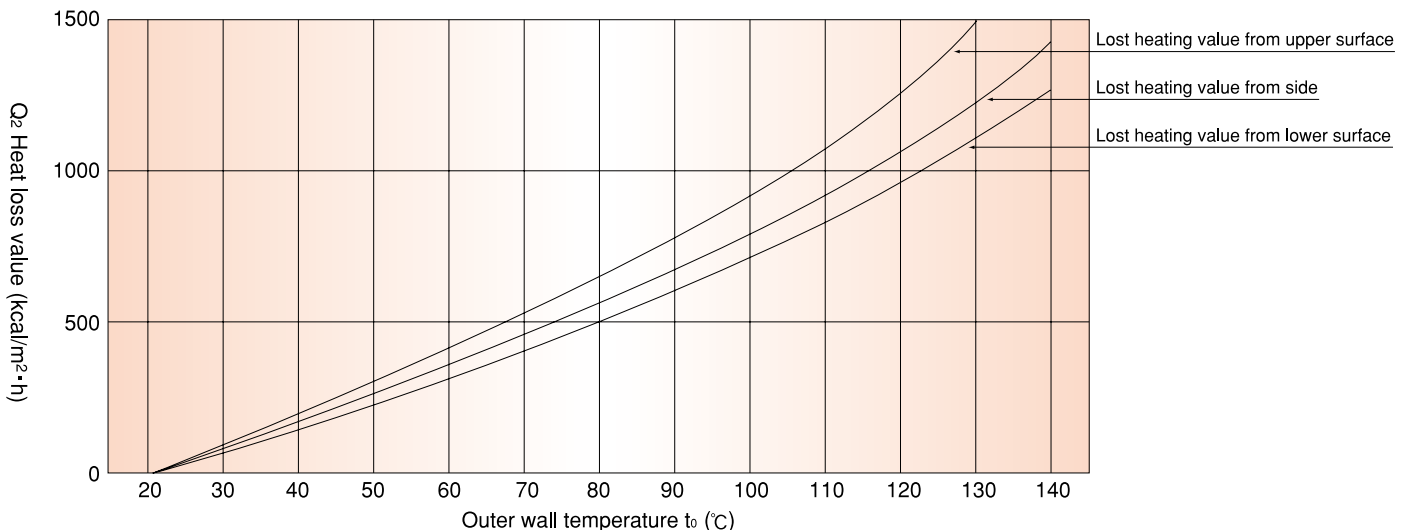

Fig. 17 Relation between outer wall temperature and heat diffusion amount
Relation between t₀ and Q₂ (Fig. 17) $\dots \dots \dots (2)$